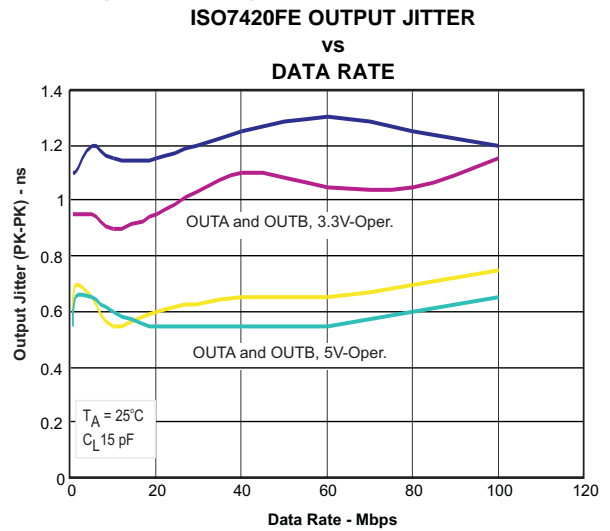
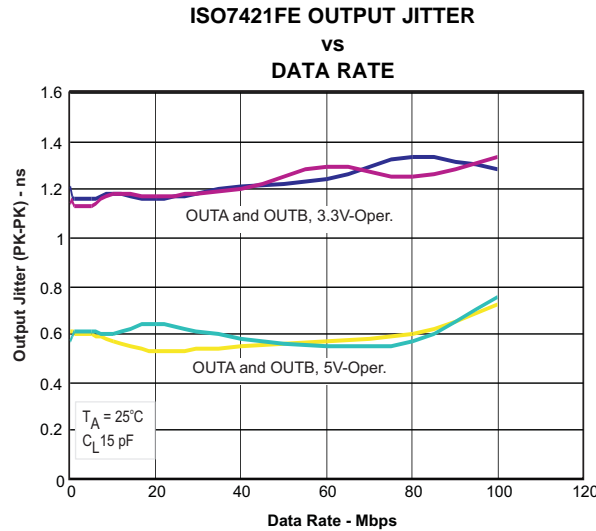

Figure 21.
Figure 22.
- Added graphs Figure 21 and Figure 22 16